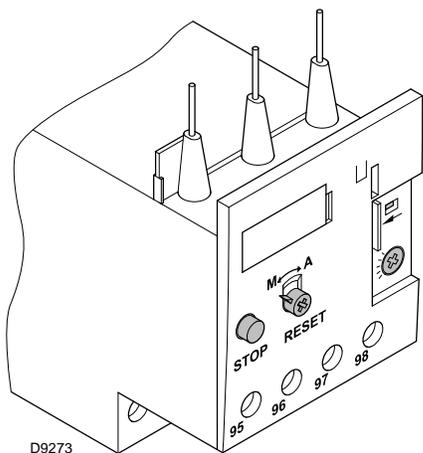

Fig. 34
The electro-mechanical thermal relay (Fig. 34) is used to avoid damage to the motor owing to a strong increase in absorption or the lack of a phase.
- To reset, in the case of an intervention of the thermal relay, press the button "RESET" (Fig. 34).
- The button "STOP" (Fig. 34) opens the NC (95-96) contact and stops the motor.